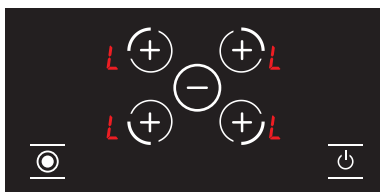

Figure 22
1. The symbol **L** is displayed on all hotplates when the hob is switched on and the child safety lock is activated. (See Fig. 22.) The marks **L** and are displayed alternately in case a hot plate is hot **H**. You can only switch the hob on or off using the button **⏻**.